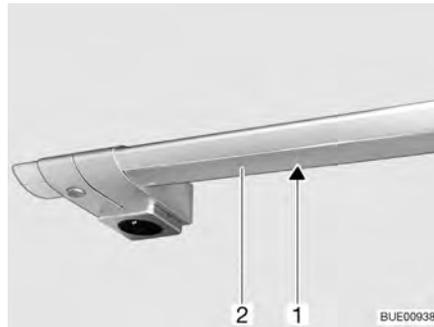

Fig. 212 Cooker lamp
- Squeeze cover (Fig. 212,2) lightly with both hands and pull downwards. Always start pulling at the very left or right end.
- Remove halogen bulb (Fig. 212,1).